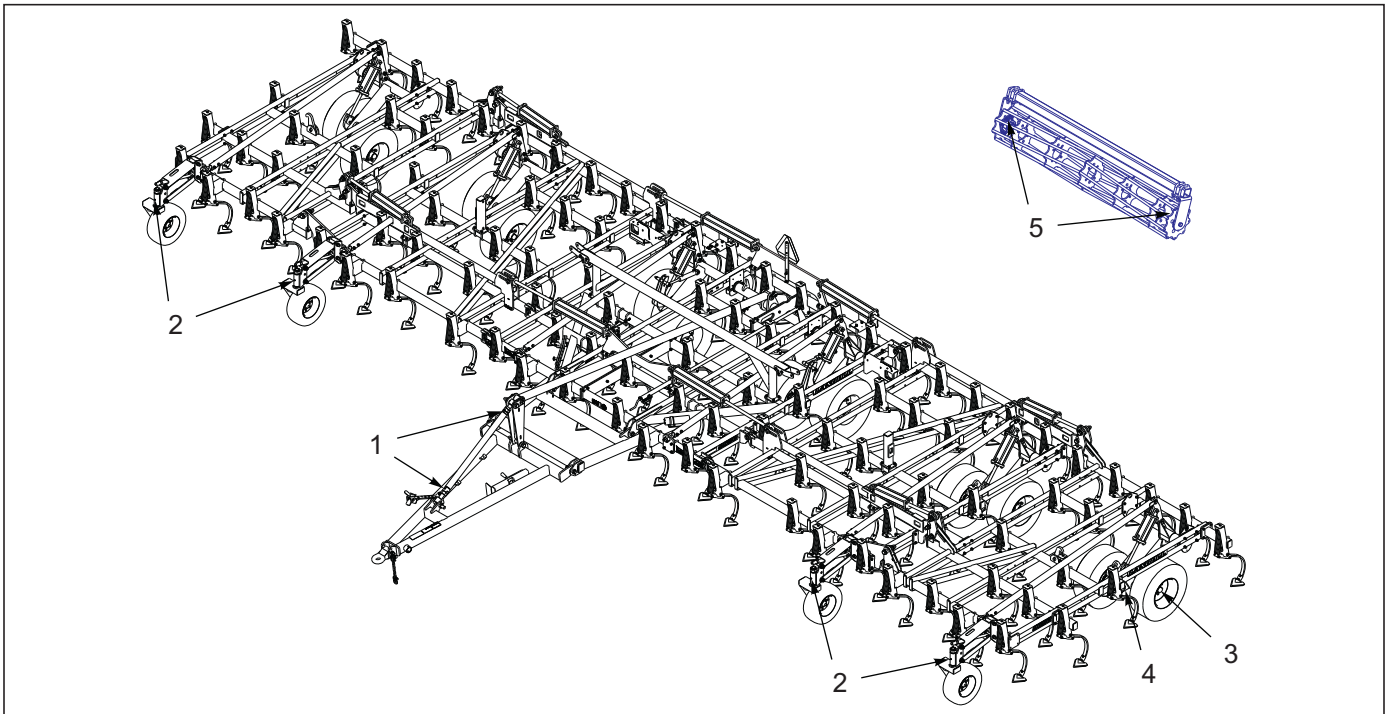

Figure 4-14: Lubrication Points
1. A proper maintenance schedule will insure a long operating life and peak performance. Performing the following lubrication will ensure maximum operating life of the Field Cultivator *See Table 4-1 and See Figure 4-14.*